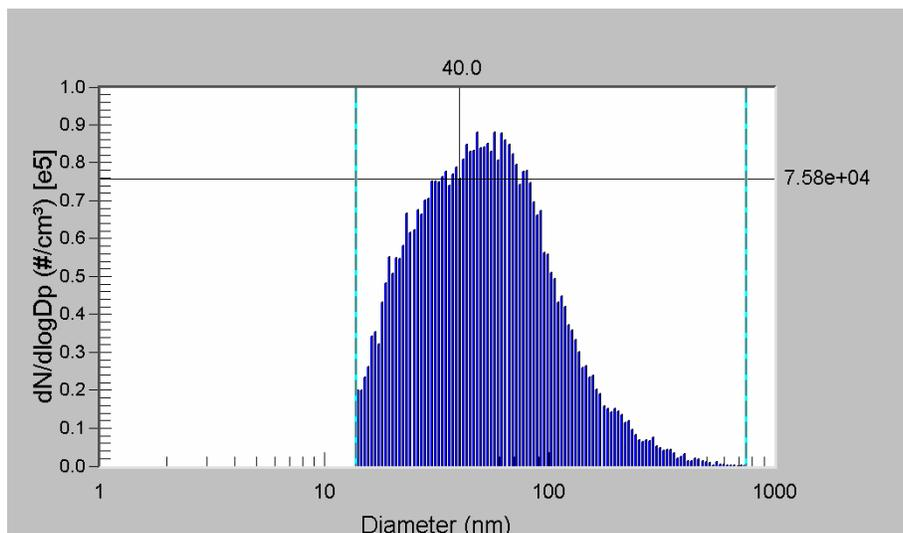

Figure 3-3
2. Press the left mouse button to display the values. Figure 3-3 shows how the data values would be displayed for an SMPST[™] spectrometer (diameter and number concentration).